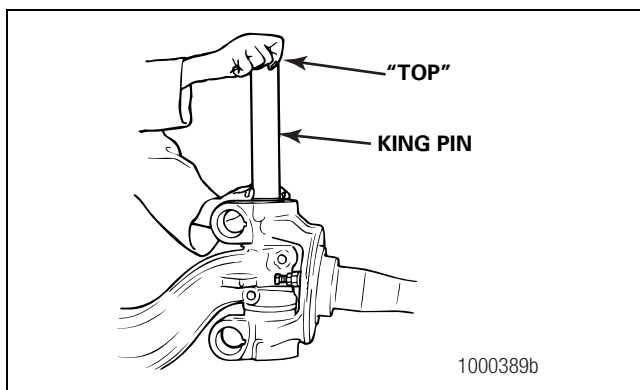

Figure 6.17
- Verify that you can see the word "TOP," which is stamped on the king pin. Figure 6.17.